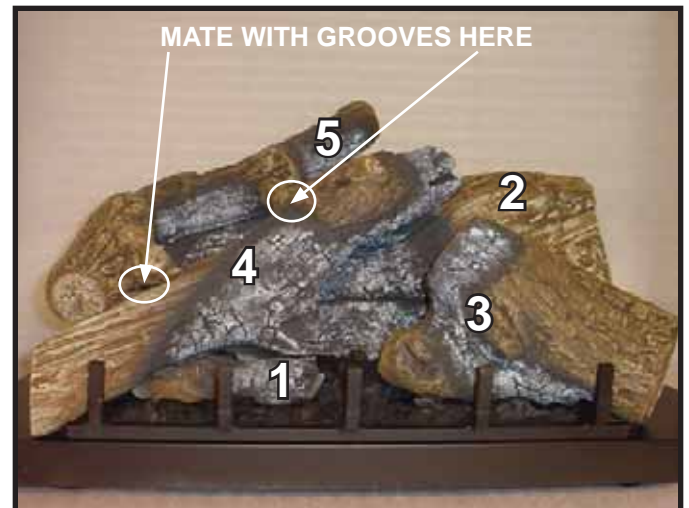

Figure 14.8
**LOG #5 (SRV2065-705)** Place log #5 on log #2. Log #5 will mate with the grooves located on the top side of Log #4. See Figure 14.8.